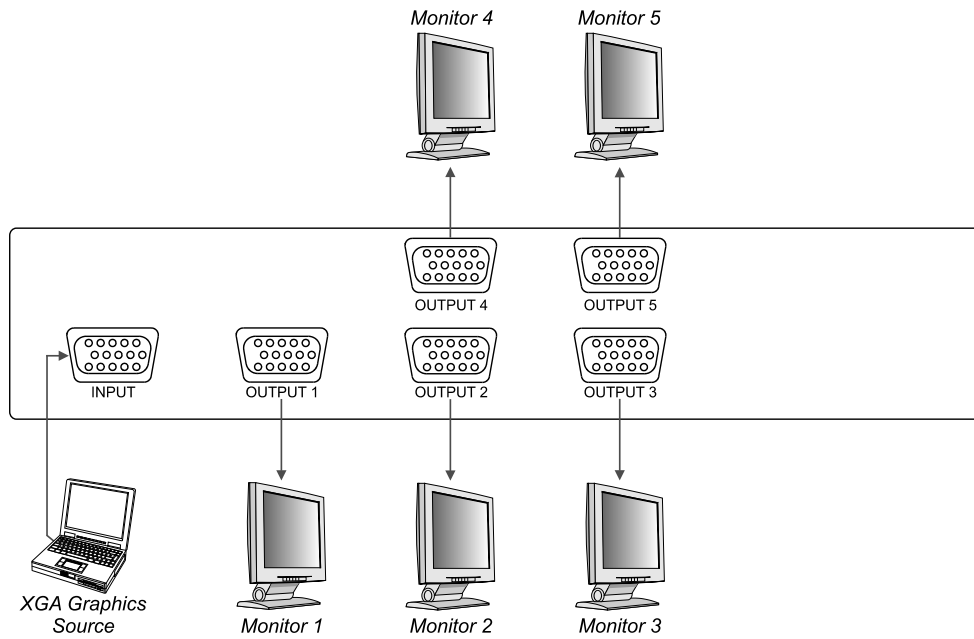

Figure 5: Connecting the VP-5xl to 5 Monitors
To output the XGA signal from a laptop's digital graphics card to up to 5 monitors using a **VP-5xl** (as the example in Figure 5 illustrates), do the following:
4. Connect the power cord2 (not illustrated in Figure 5).